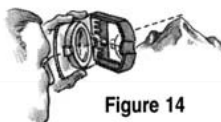

Figure 14
- Sight to top of object. (Figure 14)